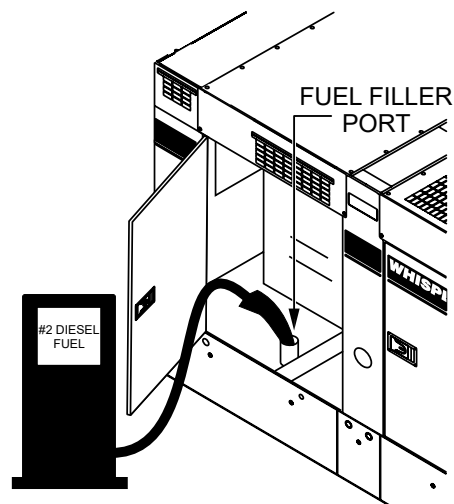

Figure 27. Fueling The Generator
2. Remove the cap from the fuel filler port and fill the fuel tank as shown in Figure 27.